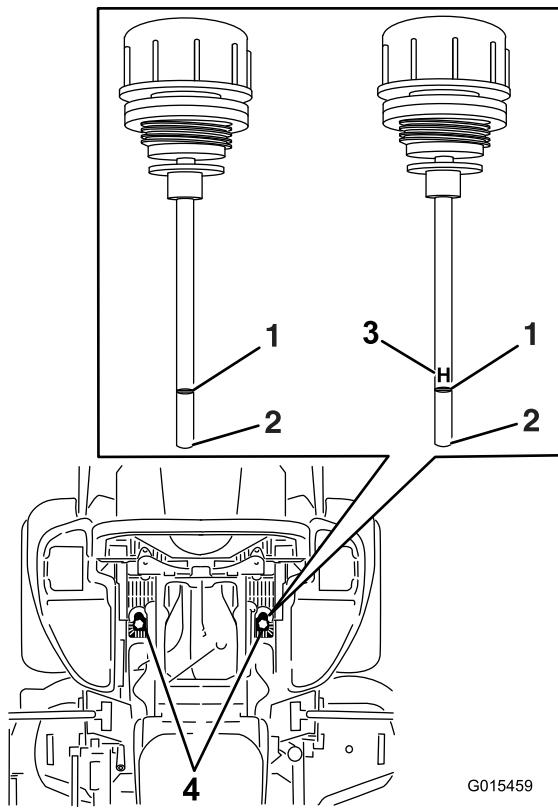

Figure 89
6. Clean the area around the dipsticks of the hydraulic-system reservoirs (Figure 89).
7. Remove one dipstick from the hydraulic reservoir (Figure 89).
9. Remove the dipstick and look at the end (Figure 89). If the oil level is at the add mark, slowly pour only enough oil into the hydraulic reservoir to raise the level to the full or **H** line.